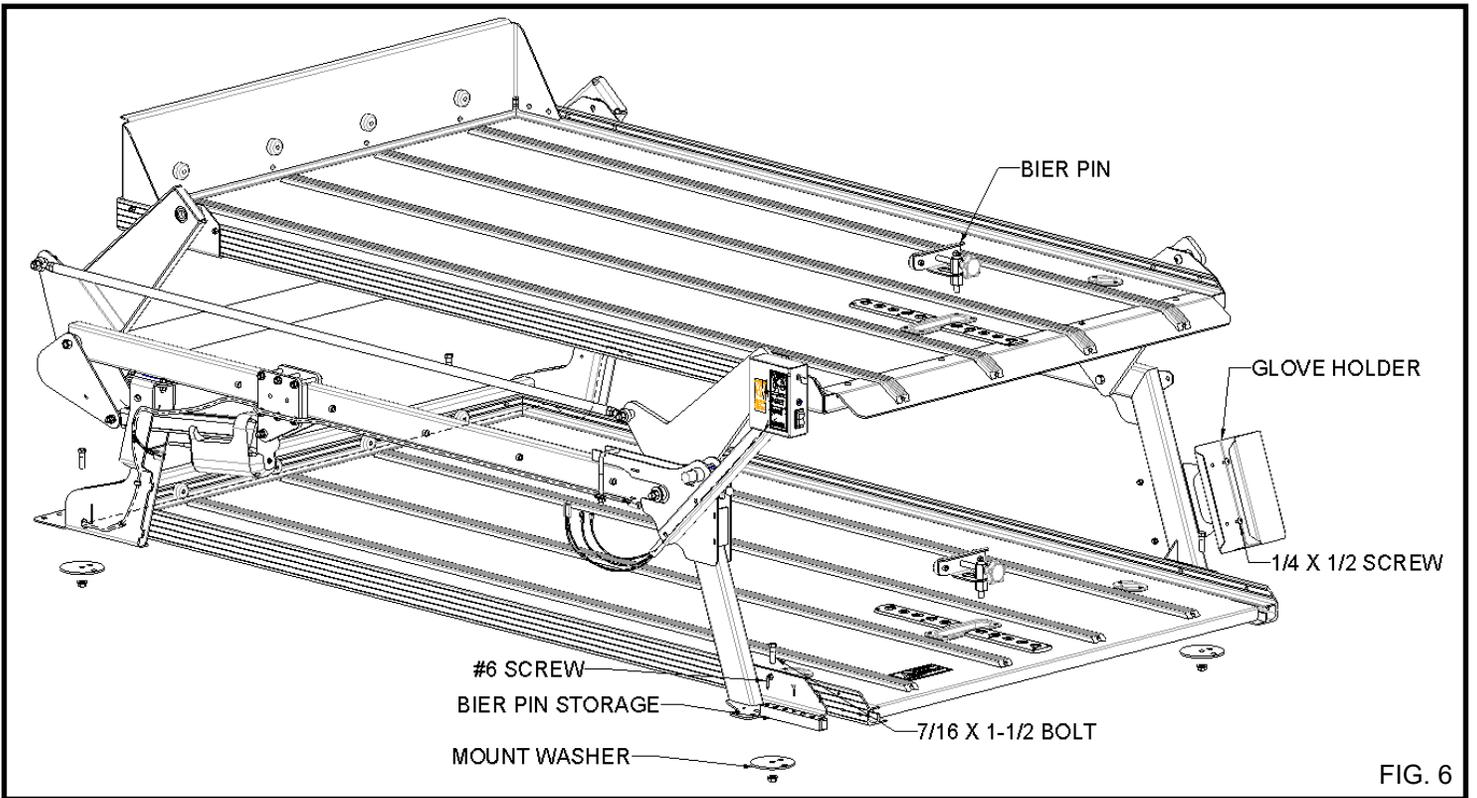
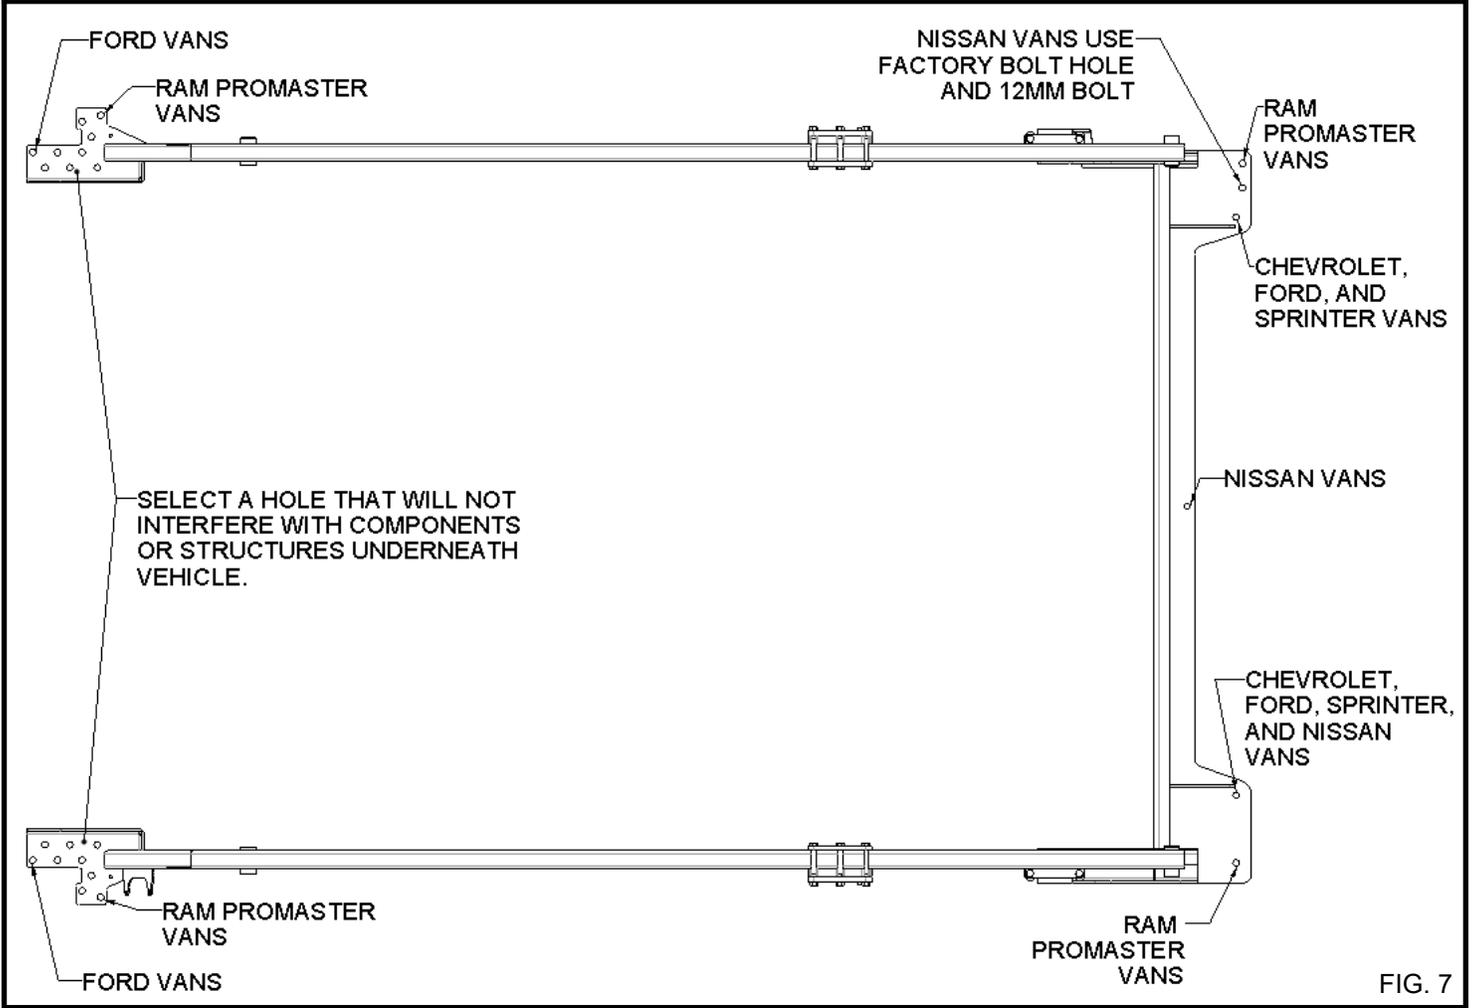

FIG. 6
FIG. 7
- b. The front mounts offer multiple locations. Use the mount holes as shown in **(FIG.7)** being sure they do not interfere with the fuel or exhaust system and are not positioned over the middle of a frame cross member of the vehicle.
**NOTE:** Use the existing 12MM bolt from the floor to secure the front left corner on Nissan Vans **(FIG. 7)**
- 1) Secure with (4) 7/16 X 1-1/2 bolts, (4) mounting washers, and (4) 7/16 serrated flange nuts.
6.21 Mount the Bier pin storage mount in a location that does not interfere with the operation of the DD2000. Secure the mount using (3) #6 screws. **(FIG.6)**